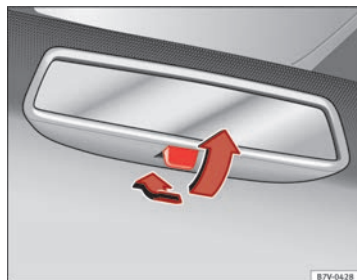

Fig. 71 Manual anti-dazzle function for rear vision mirror
- Pull the lever to the back to select the anti-dazzle function ⇒ Fig. 71.